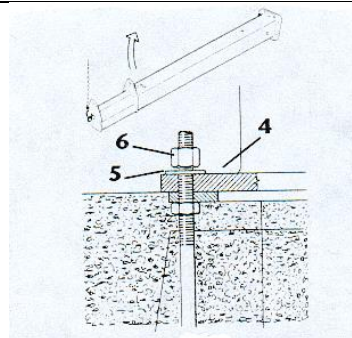
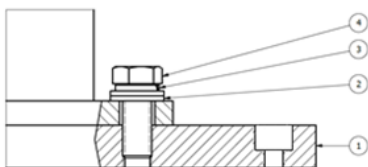

fig. 28
fig. 29
- 3) Erect the column without arm, lifting it in the upper part with suitable equipment after having slung it as indicated, mount it on the foundation frame positioning base plate 4 correctly and approaching the nuts 6 after placing the relative flat washers 5 (fig. 28).
- 2) Set up the pillar without the arm, lifting it by the upper part with appropriate equipment having put it in the sling as shown, assemble it on the counterplate positioning the base plate 4 correctly and secure it using the special Kit supplied with the counterplate (fig. 29) (proceed with step 4)
Donati Sollevamenti SRL shall not be held liable for any fixings other than those indicated in fig. 28 e fig. 29.